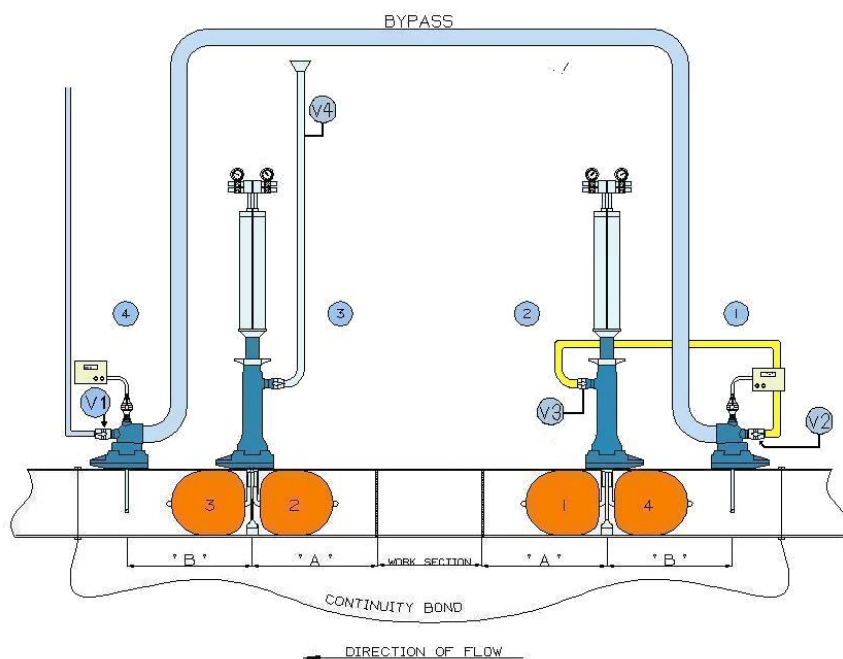

Figure 77– Recommission Main (Using Purging Rider)
3. A suitably sized rider, as stated in the written procedure, should be connected between V2 and v3. see Figure 77